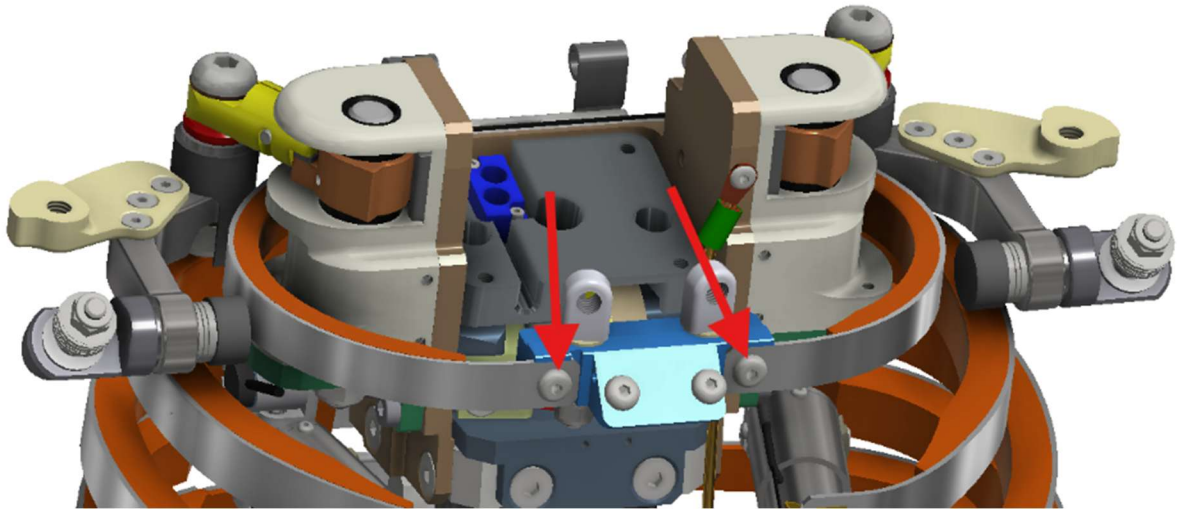

Figure 5-62. Attach Rib 1 to Sternum Adaptor (474-3040-A) to Rib 1 (474-3301-A)
5.3.26 Attach Rib 1 to Sternum Adaptor (474-3040-A) to the Rib 1 (474-3301-A) using two M5 X 0.8 X 8 LG. BHCS (Figure 5-62).